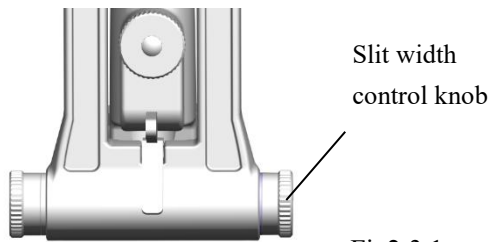
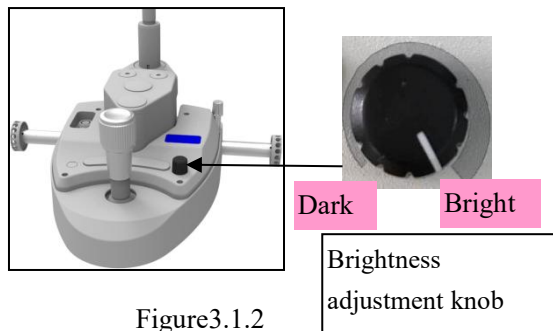

Fig2.3.1
Figure 3.1.2
2. Insert the focusing test rod (Fig. 2.1.6) and turn the slit width control knob. The illumination spot should be observed on the black plane of the focusing test rod. The brightness change of the illumination should be observed when rotate the brightness adjustment knob (see Figure 3.1.2).
should be observed when rotate the brightness adjustment knob (see Figure 3.1.2)
Turn on the main power switch and turn the brightness adjustment knob to the middle (see Figure 3.1.2). Adjust the slit width adjustment knob (see Figure 2.3.1) to make the slit width 2 to 3 mm.
Rotate the slit width control knob (see Figure 2.3.1) to change the slit width from 0mm to 12mm (when the width is adjusted to 14mm, the slit becomes circular), the knob has a scale to indicate roughly the width value (see Figure 3.4.1).